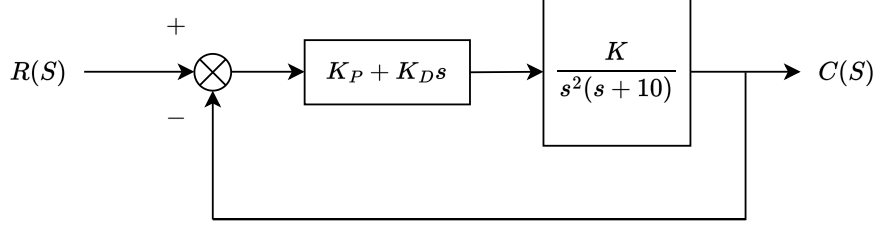

Figure 5: A control system with a PD controller
3. A control system with a PD-controller is shown in Figure 5. (20')